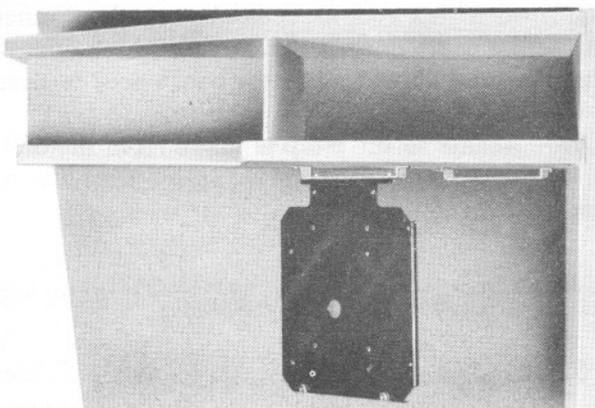

Fig. 6 — Hinged Mounting Plate on 20-type Shelf, Side View
7.03 The hinged mounting plate which is arranged to mount a 531-, 634-, 684-, or 685-type subscriber set is shown in Fig. 6.